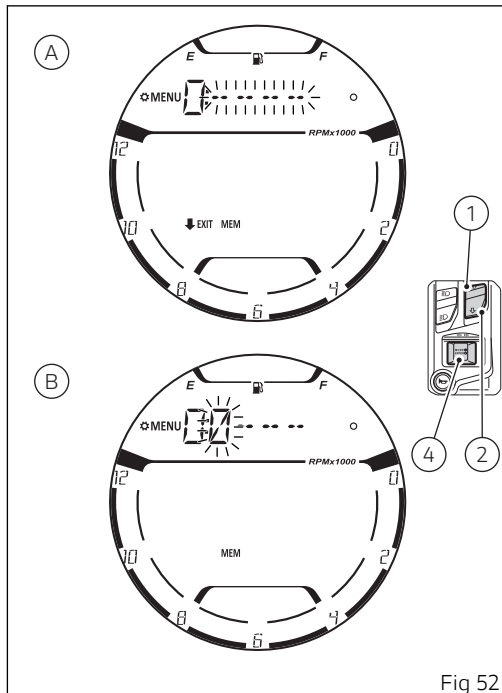

Fig 52
- If the PIN is not correct, the instrument panel displays "ERROR" flashing for 2 seconds and then highlights the four dashes "- - - -" for the old PIN to allow you to try entering the code (A, Fig 52) again.